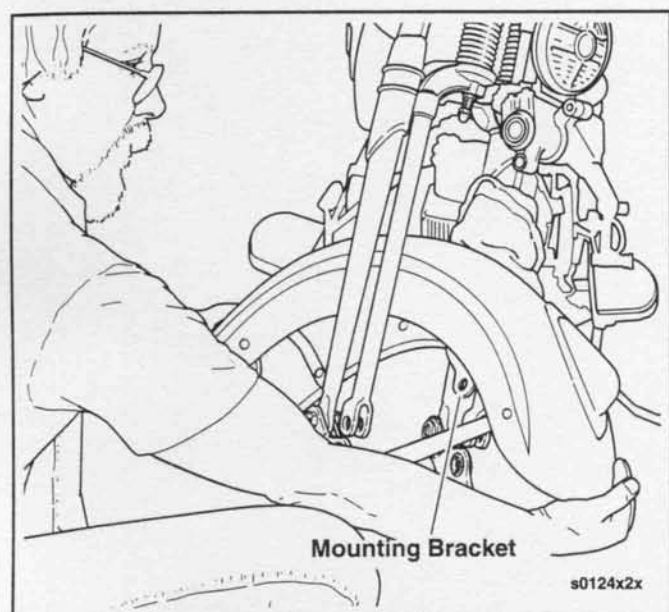

Figure 2-95. Front Fender Removal- FLSTS
- a. See Figure 2-95. Slide fender down until mounting bracket is just in front of the rigid fork leg.
- b. See Figure 2-95. Raise fender until fender holes are aligned with fork holes for axle.